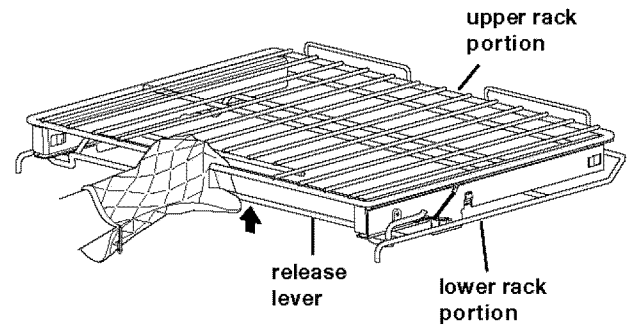

Fig. 1
**To remove** using one hand, reach through handle opening on top of glide rack and lift up on the release lever located across the lower front of the rack as shown -*Fig. 1*-.